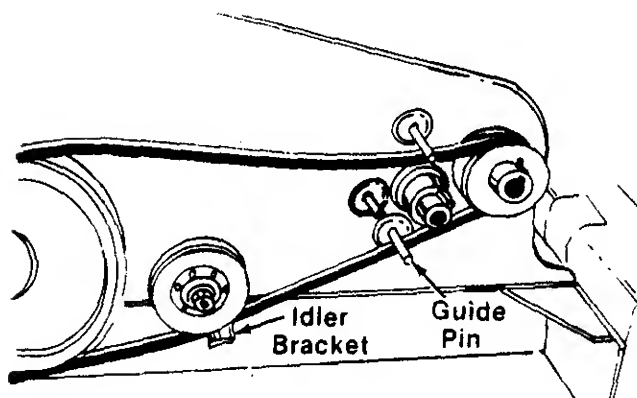

FIGURE 24.
6. Remove the belt and install the new belt. Be sure the belt is routed around the guide pins as shown in figure 24.
Belt must be between the "V"-idler pulley and the idler bracket. See figure 24.